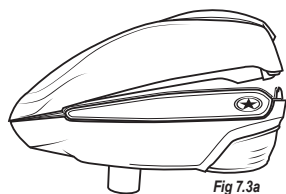
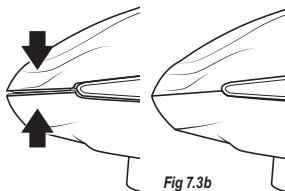

Fig 7.3a
Fig 7.3b
4. Slide the Upper Shell downward and backward to secure the front halves of the shells together (Fig 7.3a, Fig 7.3b).